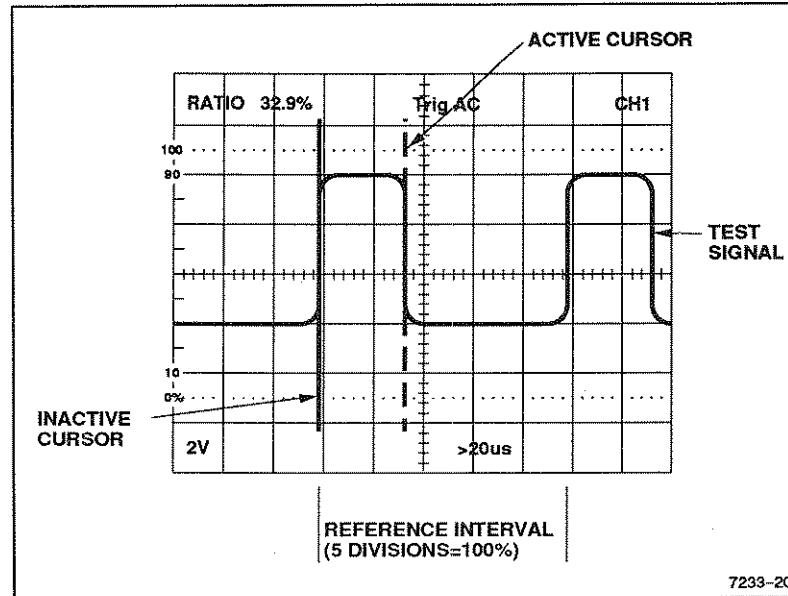

Figure 6-8. Time ratios.
8. Position one cursor to the left edge of the test interval and the other cursor to the right edge, using the Cursor Position and Select Active Cursor controls (see Figure 6-8).